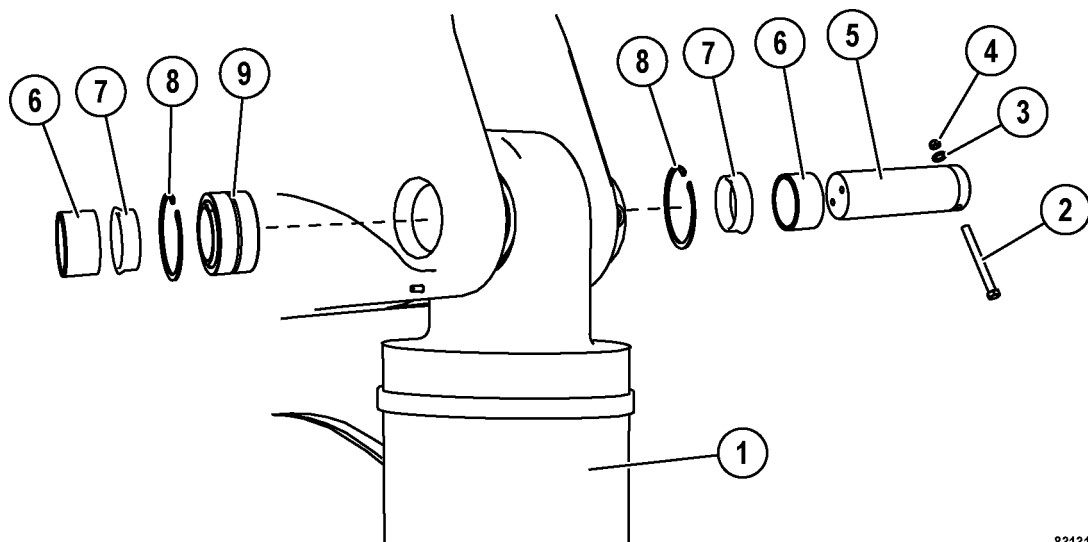

FIGURE 3-4. REAR SUSPENSION CYLINDER PIN INSTALLATION
8. Remove locknut (4, Figure 3-4), flat washer (3) and shoulder bolt (2) from the upper and lower pins on the suspension cylinder to be removed.
14. Remove pin (5, Figure 3-4) from the lower mounting.
1. Inspect mounting bore sleeves (6, Figure 3-4) and the bearing spacers for damage and wear. Check the fit of the pins in the bores before installing the suspension. Replace worn or damaged parts.
3. Position the top suspension eye and spherical bearing between the ears on the frame, as shown in Figure 3-4. Orient the cylinder so that the charging valve faces the opposite suspension cylinder, as shown in Figure 3-1.
5. Align the hole in pin (5, Figure 3-4) with the hole in the mounting bore. Drive in the pin far enough to hold the pin in position.
6. Insert bearing spacer (7) and continue to drive in the pin through the spherical bearing. Insert the remaining spacer and continue to drive in the pin until the hole in the axle housing is aligned with the hole in the pin.
7. Install shoulder bolt (2), flat washer (3) and locknut (4). If further alignment of the holes is necessary, install a pin removal tool onto the pin. Use the tool and a large pipe wrench or other suitable device to align the holes. Tighten the locknut to **68 N·m (50 ft lb)**.
3. Remove pressure sensor (15).
4. With the suspension in a vertical position (piston rod down), remove drain plug (18) and drain the suspension oil. A properly charged rear suspension cylinder contains 54.5 L (14.4 gal) of oil.
5. Rotate the cylinder 180°. Remove capscrews (6) and washers (7). Lift piston rod (9) from housing (1).
6. Remove bearing retainer (5) from the piston. Remove bearing (4). Remove the seals, the O-ring and backup ring from bearing retainer (5). Discard the O-ring and backup ring.
7. Remove bearing (3) from the piston.
8. If spherical bearings (9, Figure 3-4) require replacement, remove retaining rings (8) and press the bearing from the cylinder bore.
1. If removed, install spherical bearing (9, Figure 3-4) in the eye of the piston rod and cylinder housing.
2. Install retaining rings (8) to secure the bearings.